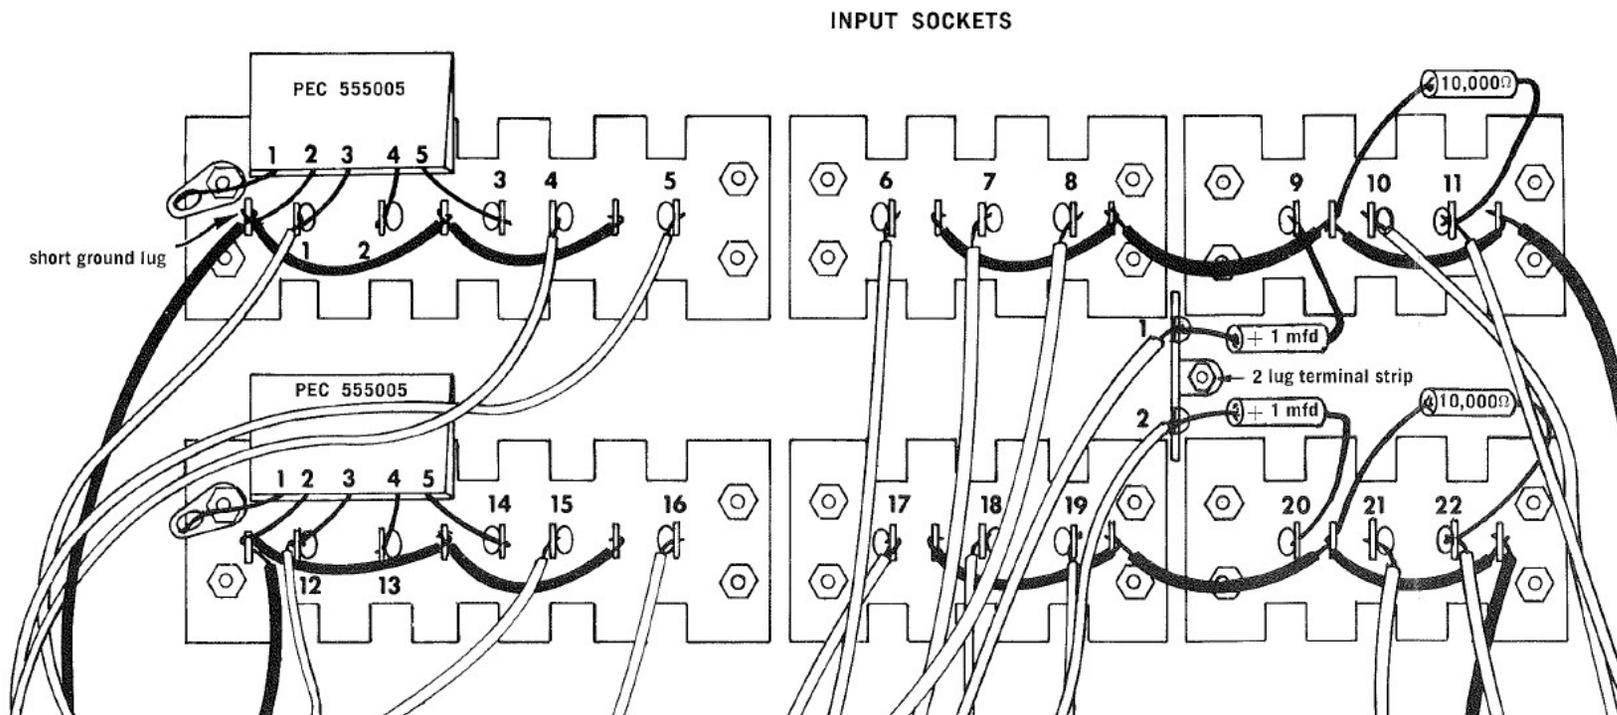

Figure 16-Original Back Panel Wiring, 1 mfd caps get removed and replaced by caps on the new selector PCBs
The following discussion may be helped by referring to Figure 16.
- a. Remove the bottom two 4-40 screws and nuts (refer to Figure 16).